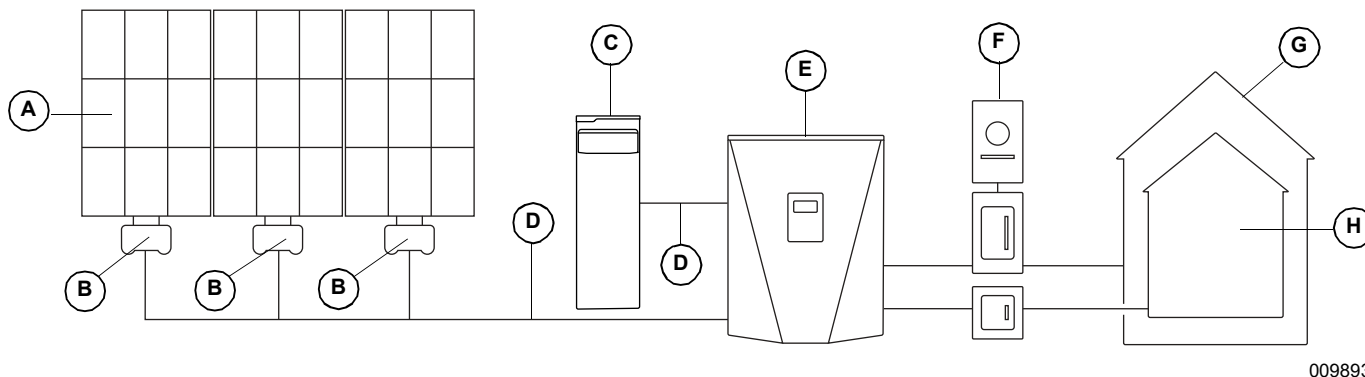

Figure 2-3. Generac PWRcell System Example
In **Figure 2-3** PWRcell inverter (E) is directly connected to PV Link optimizers (B) and PWRcell battery (C) on DC (REbus) lines (D). To the right of the inverter are AC lines: 120/240 VAC for grid and home loads (G) and protected loads (H).